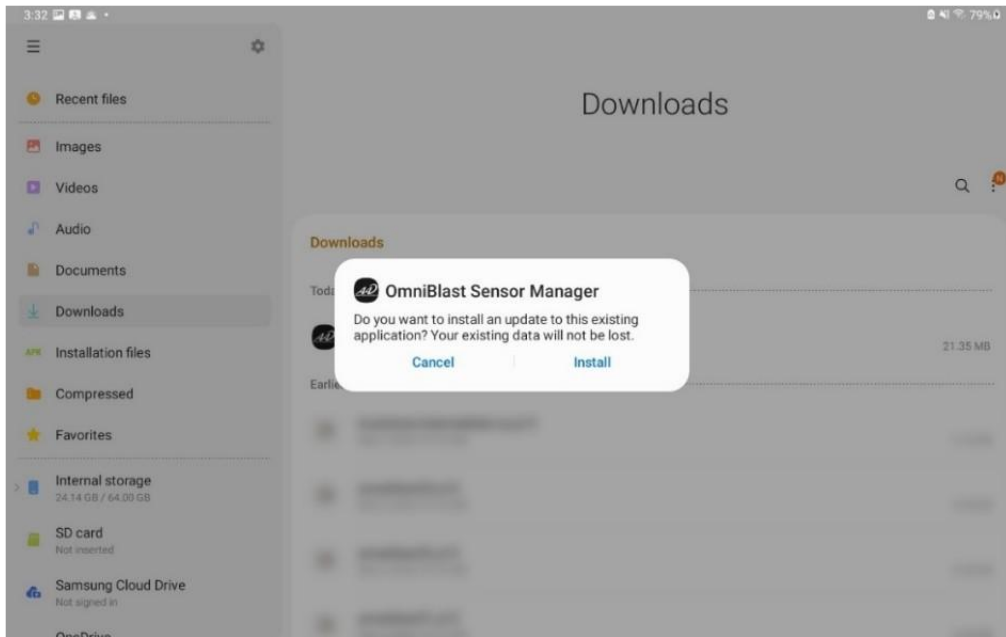

Figure 2. Selecting and installing the OSM .apk from the downloads folder.
4. On the Android device open the downloads folder and select the OSM_version1.0.0.apk. Select 'Install' when the pop-up appears (**Figure 2**).